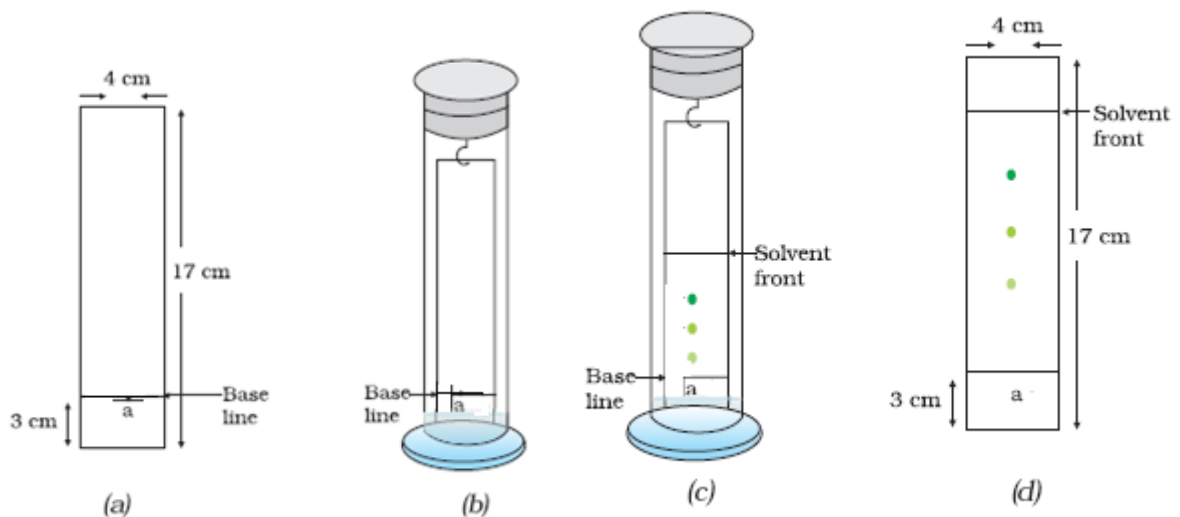

Fig. 5.1 : (a) Marked paper; (b) Dipping the filter paper in the solvent; (c) Developing chromatogram; and (d) Developed chromatogram
- (iii) Procure a Whatman filter paper No.1 of size 4 cm × 17 cm and mark a line at a distance of 3 cm from one of the ends of the paper with the help of a pencil [Fig. 5.1(a)].
- (iv) Using a finely drawn capillary put one spot 'a' for the extract of leaves. Allow these spot to dry as shown in Fig. 5.1 (a).
- (v) Hang the filter paper in a jar containing 20 mL mixture of petroleum ether (boiling range 60–80°C) and chloroform containing 19 mL petroleum ether and 1 mL chloroform or a mixture of petroleum ether (boiling range 60–80°C) and acetone in the ratio 9:1 (18 mL petroleum ether + 2 mL acetone) so that the solvent does not touch the reference line as given in Fig. 5.1 (b).
- (vi) Keep this jar as such till the mobile phase (solvent) rises up to 2/3 of the length of the paper [Fig. 5.1(c)].
- (viii) Measure the distance travelled by the solvent front and the centre of different spots with respect to the reference line as given in Fig. 5.1 (d).